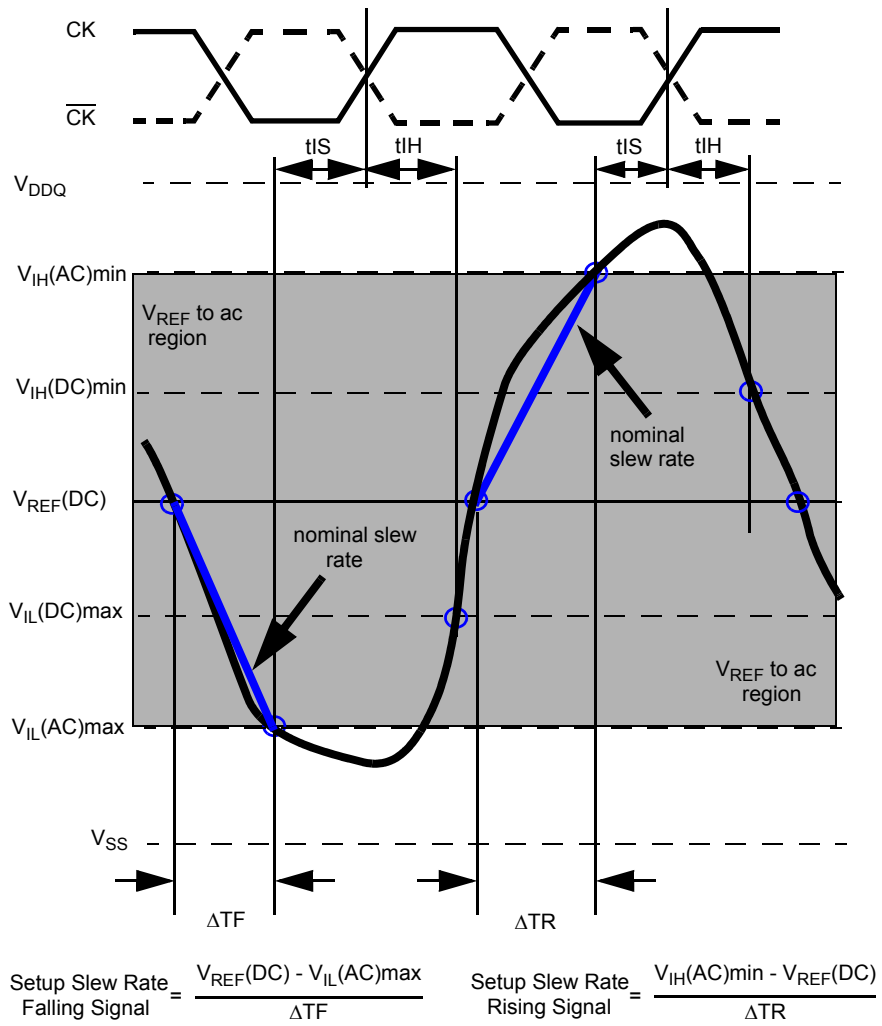
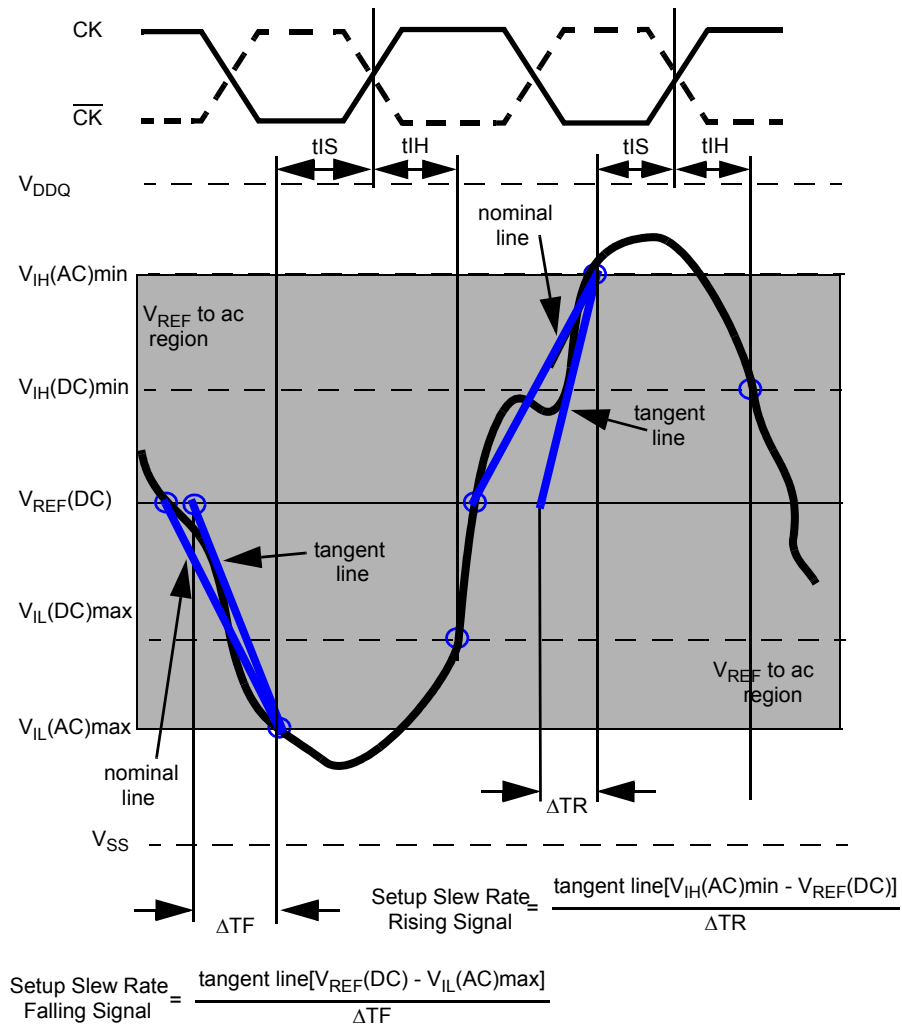

Figure 15. Illustration of nominal slew rate for tIS
Figure 16. Illustration of tangent line for tIS
Setup (tIS) nominal slew rate for a rising signal is defined as the slew rate between the last crossing of VREF(DC) and the first crossing of VIH(AC)min. Setup (tIS) nominal slew rate for a falling signal is defined as the slew rate between the last crossing of VREF(DC) and the first crossing of VIL(AC)max. If the actual signal is always earlier than the nominal slew rate line between shaded 'VREF(DC) to ac region', use nominal slew rate for derating value (see Figure 15). If the actual signal is later than the nominal slew rate line anywhere between shaded 'VREF(DC) to ac region', the slew rate of a tangent line to the actual signal from the ac level to dc level is used for derating value (see Figure 16).